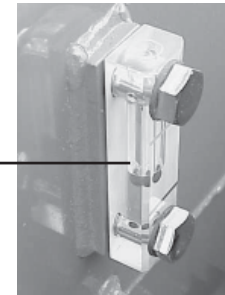

Figure 7. Hydraulic System Oil Level Gauge
1. Check the oil tank level gauge (Figure 7). Oil level should be at the middle indication of the gauge or higher. Fill as required